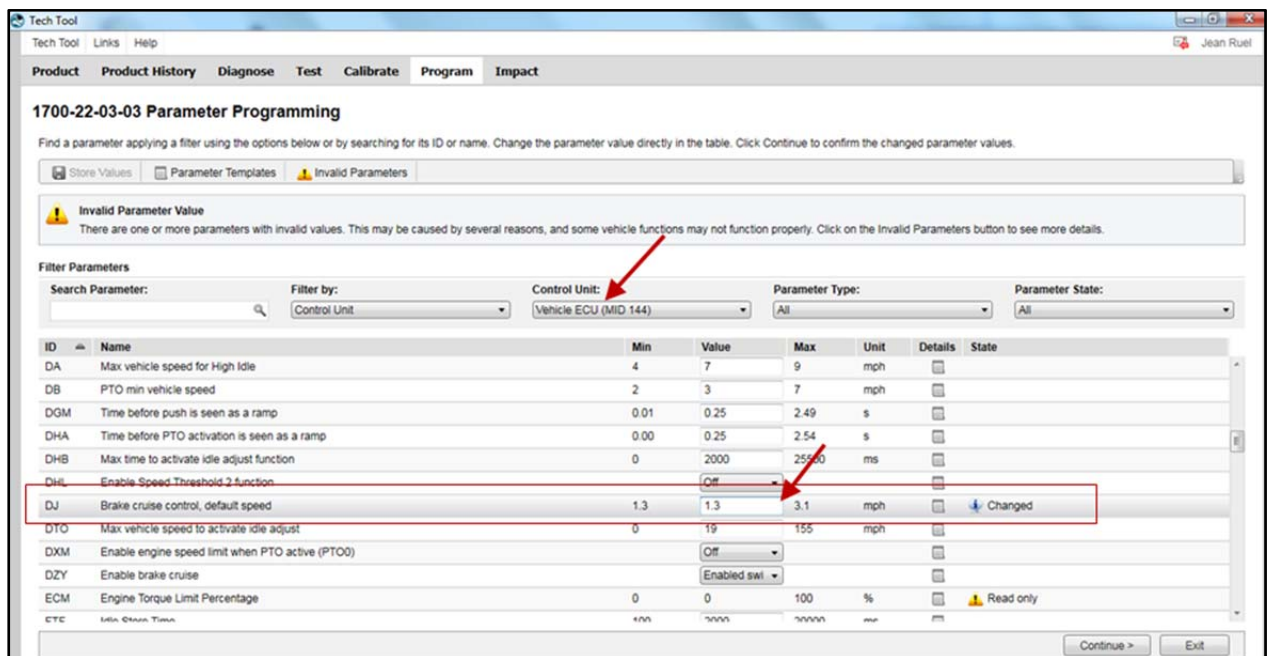

FIGURE 8
2. Under CONTROL UNIT, select Vehicle ECU (MID 144) in the drop-down list (FIGURE 8).
3. Change the value of DJ parameter. Write in the field: **1.3** if unit is **mph** or **2** if unit is **km/h** then click ENTER on your keyboard (FIGURE 8).
4. Click CONTINUE (FIGURE 8).